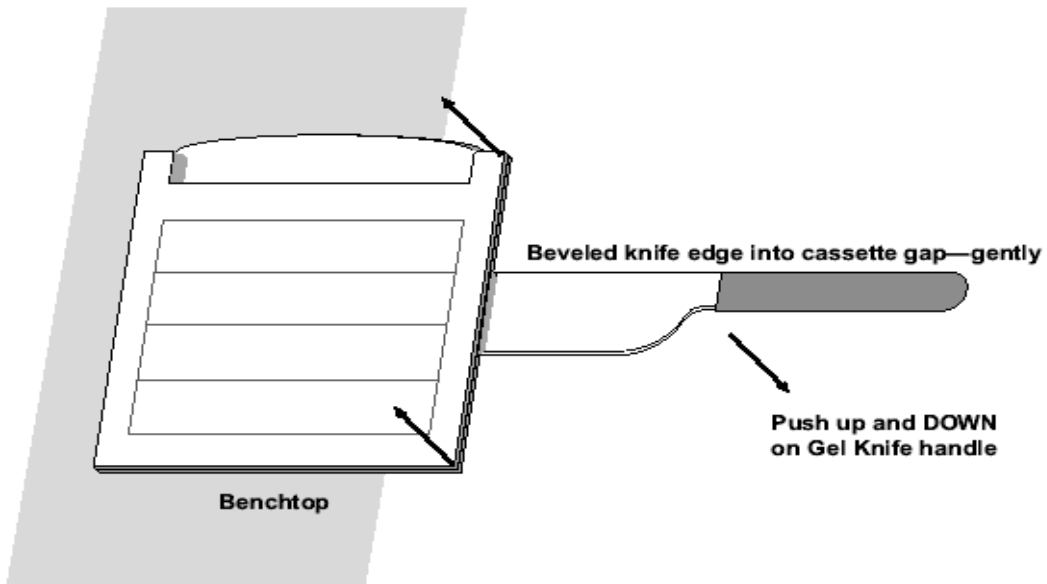

Figure 3: Opening a Gel Cassette
- 8.3.6. Insert the gel knife between the two plates. See **Figure 3**. (HINT: It may be easier to start with the corner.)
9.3. Figure 3: Opening a Gel Cassette